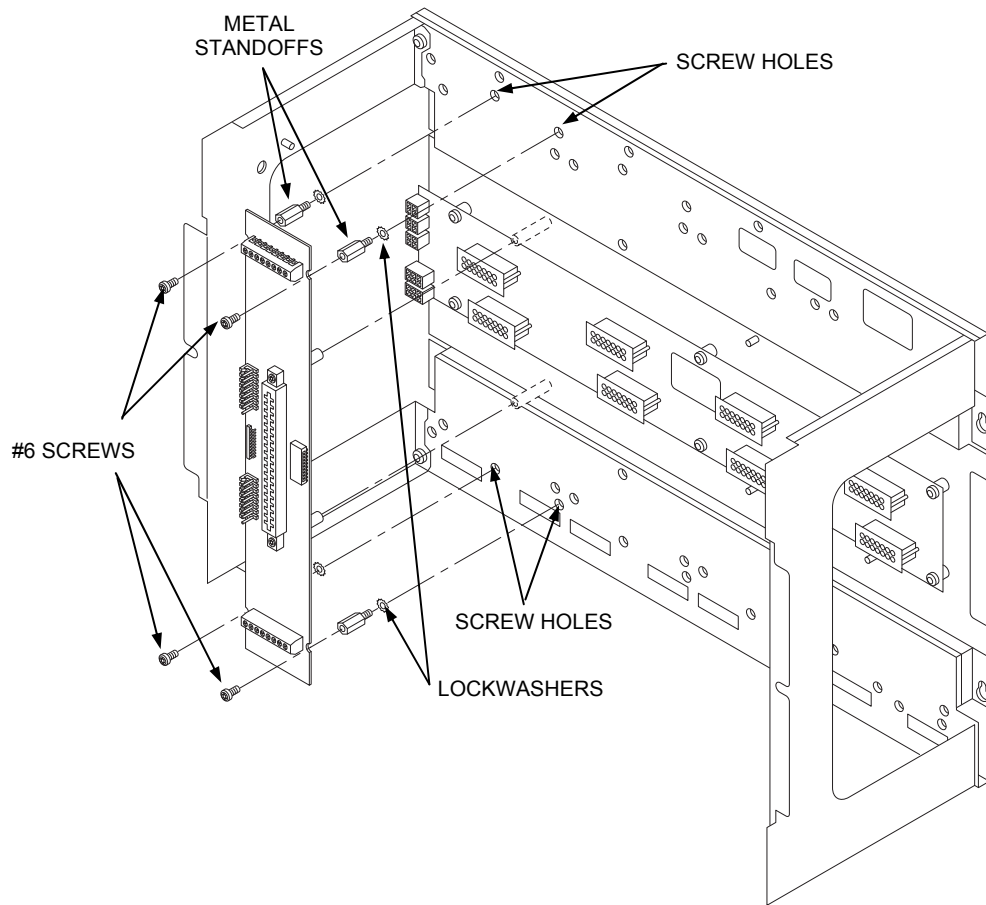

Figure 9. Installing the Motherboard in a 4100U/4100ES Expansion Bay
3. Secure the motherboard to the standoffs using four #6 torx screws as shown in Figure 9.